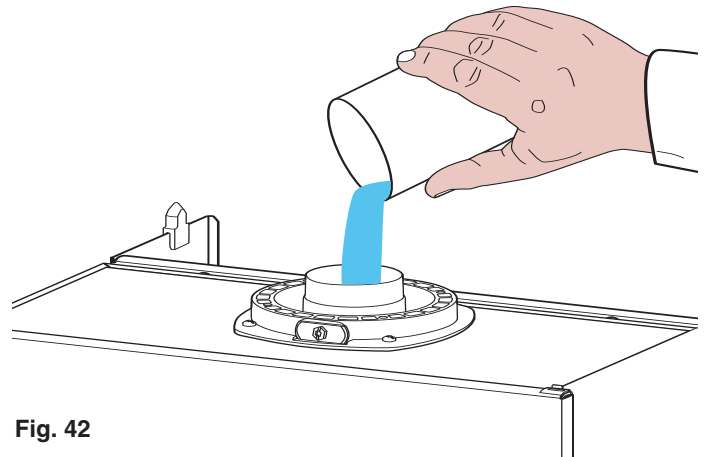

Fig. 42
2. Fill the condensate trap with water, by pouring 1/2 a litre of water into the exhaust flue connector (see Fig. 42). **N.B. In the event of a prolonged period of system shutdown, the condensate trap should be filled before any renewed use. A shortage of water in the trap could possibly lead to a leakage of fumes into the air, until it refills itself.**